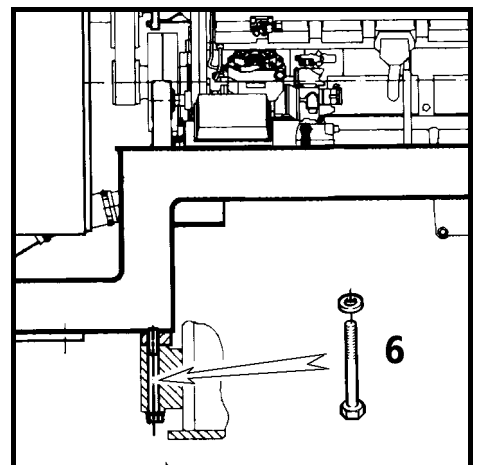

Fig. 50
The mounting bolts M48 of the hydraulic tank, the fuel tank and the both powerpacks (Fig. 50, pos. 6) must be torqued to 8000 Nm (5900 ft.lbs).